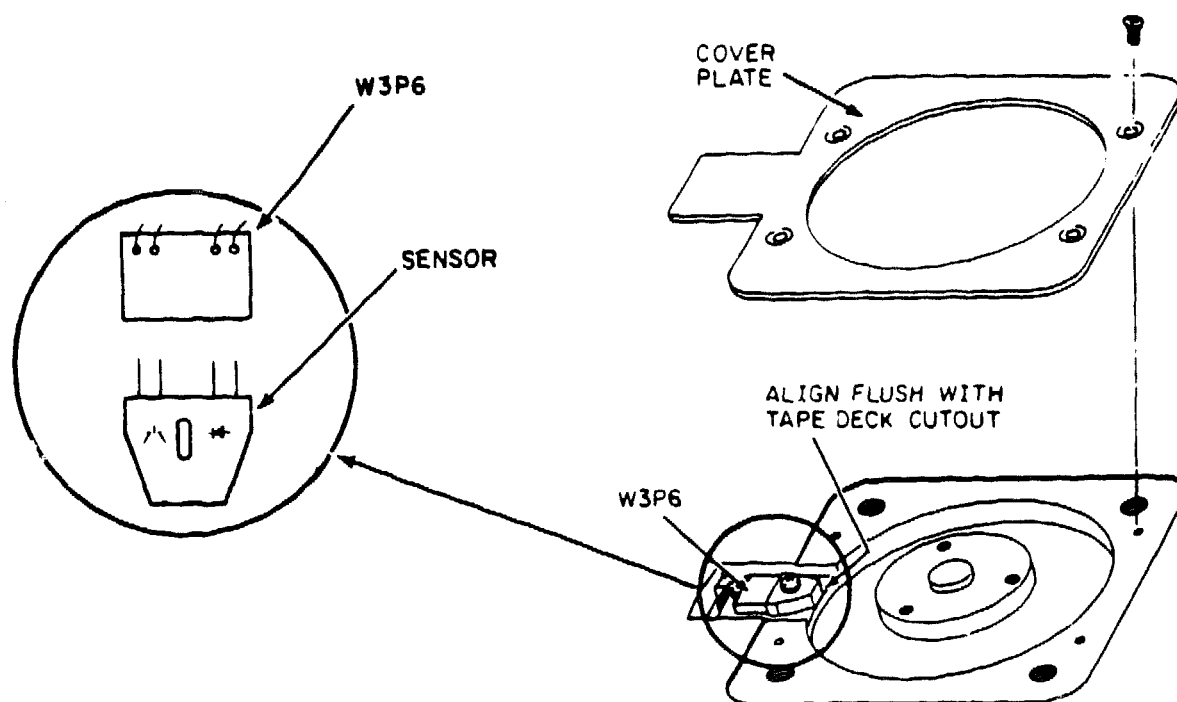

Figure 5-6. FILE PROTECT SENSOR ALIGNMENT
2. Remove the four mounting screws and the file protect sensor cover plate from the tape deck. See Figure 5-6.
See Figure 5-6 for sensor alignment and cable plug connection.